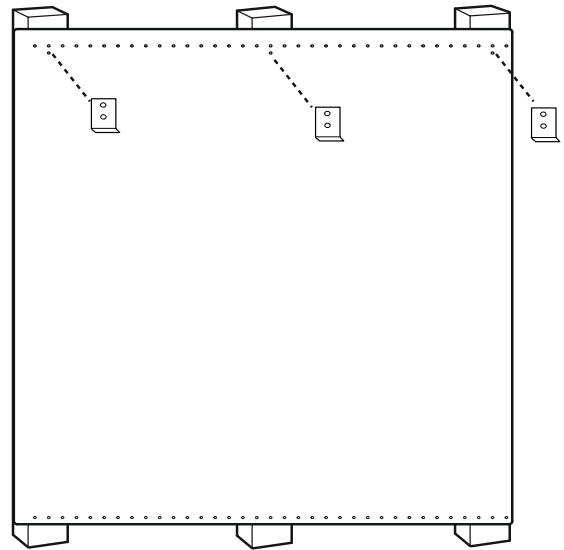

Figure 23: Backsplash with a Keep Hot Shelf
3. At the locations indicated in *Figure 23*, mount the lower shelf brackets included with the Keep Hot Shelf through the Backsplash and into the wall studs.